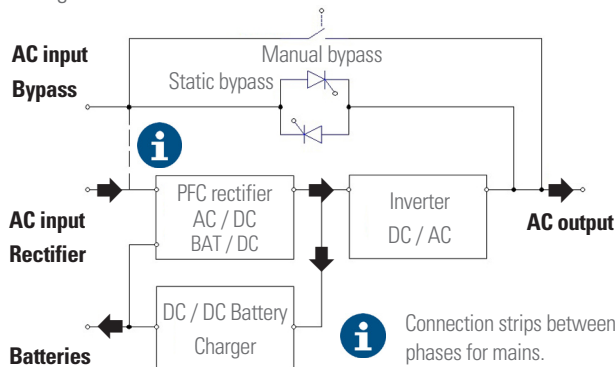
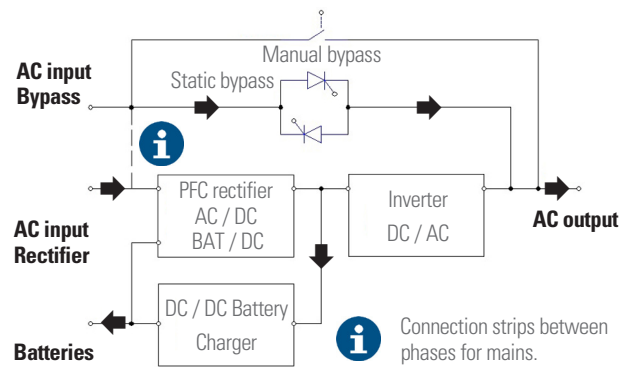

Fig. 22. Conceptual diagram of the UPS in Normal mode.
Fig. 24. Conceptual diagram of the UPS in Bypass mode.
- Fig. 22 to Fig. 24, by way of example, show illustrations of a 6-slot cabinet.